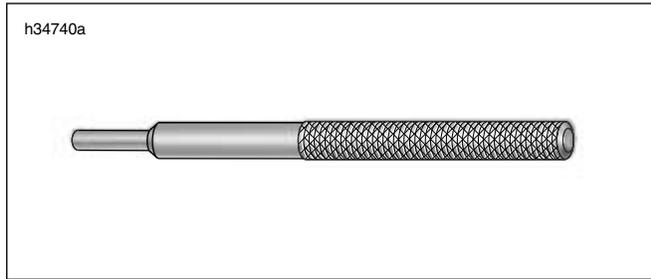

Figure 3-13. Valve Guide Driver (Part No. HD-34740)
2. See Figure 3-13. At the top of the cylinder head, insert VALVE GUIDE DRIVER (HD-34740) into valve guide bore until stopped by shoulder.